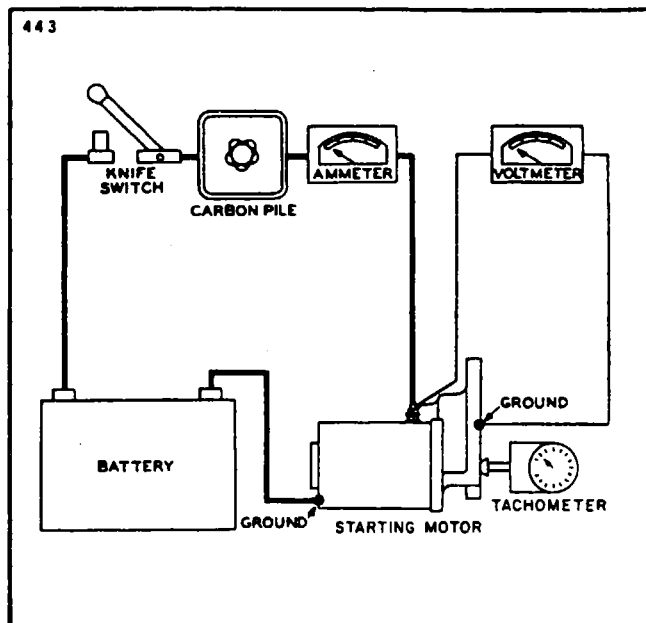

Figure 11-20. No-Load Test Hook-Up
- a. After the starting motor is reassembled, it should be tested to see that the no-load current at a certain voltage is within specifications as given in paragraph 11-44. To make this test, connect as shown in Figure 11-20. If current is too high, check the bearing alignment and end play to make sure there is no binding or interference. Two or three sharp raps on the frame with a rawhide hammer will often help to align the bearings and free the armature.